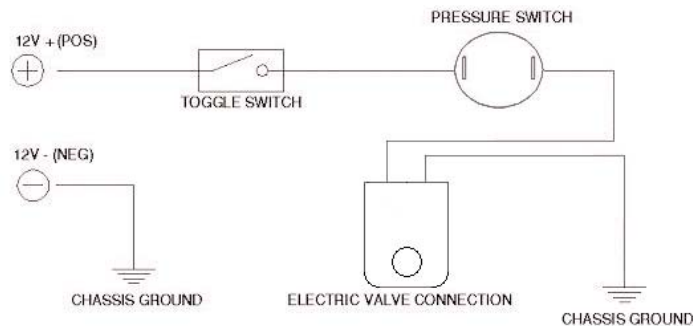

FIG. 5 - E.P.C. ELECTRIC VALVE DIAGRAM
- 3B. To install an **E.P.C. Electric Valve** run a 16-gauge multi-strand wire from the ignition lead to one side of the toggle switch. From the other side of the toggle switch, run a wire to where the electric valve solenoid is positioned. Choose one of the electric valve leads to be your power wire, either of the leads can be used. Cut the chosen wire to about 6 inches so it can neatly be wired to the pressure switch. Strip back about 1/4" of insulation and install a female connector on the wire's end. Attach it to one of the pressure switch terminals. Run the other unused lead on the electric valve to a chassis ground. Finish wiring by installing a female connector on the power lead running from the toggle switch and connect it to the unused terminal on the pressure switch. **SEE FIGURE 5.**